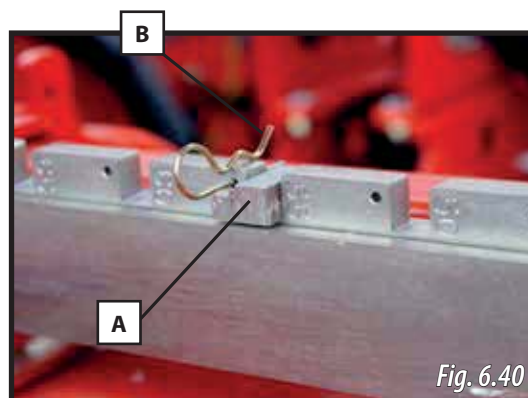

Fig. 6.40
- 2- Remove the pins (B, Fig. 6.40) and the aperture stops (A, Fig. 6.40).